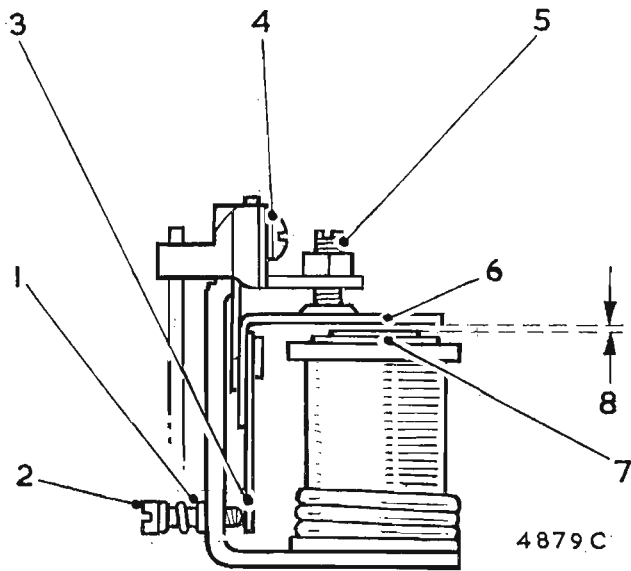

Fig. N.9
Shut off the engine, remove the control box cover, and turn the adjusting screw (2) (Fig. N.9) in a clockwise direction to raise the setting or in an anti-clockwise direction to lower the setting. Turn the adjustment screw a fraction of a turn at a time until the setting is correct.